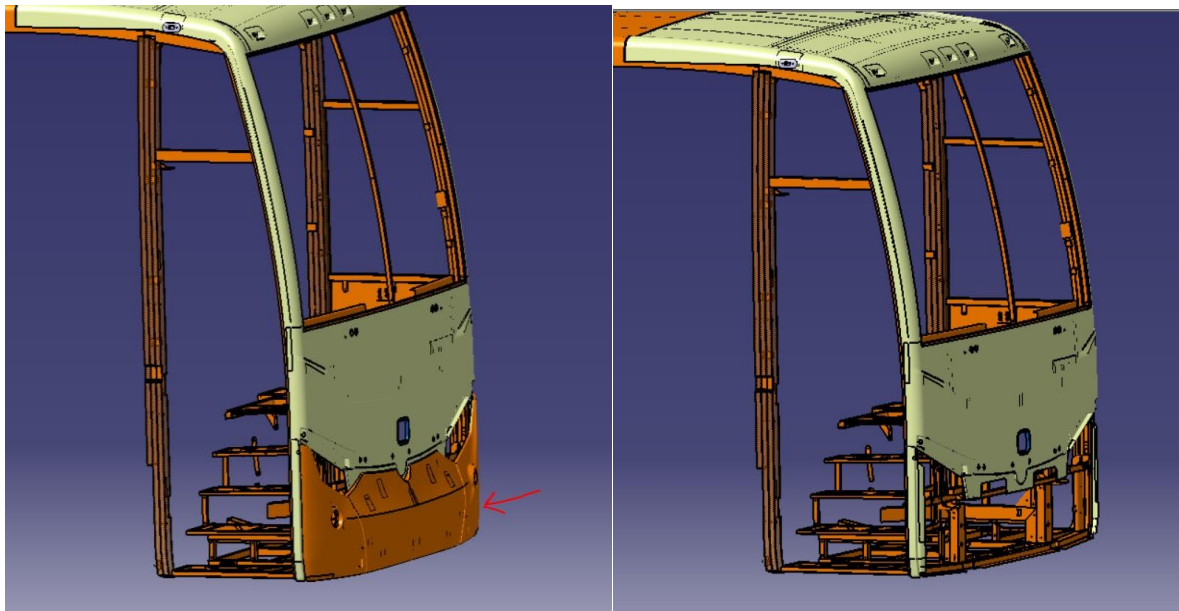
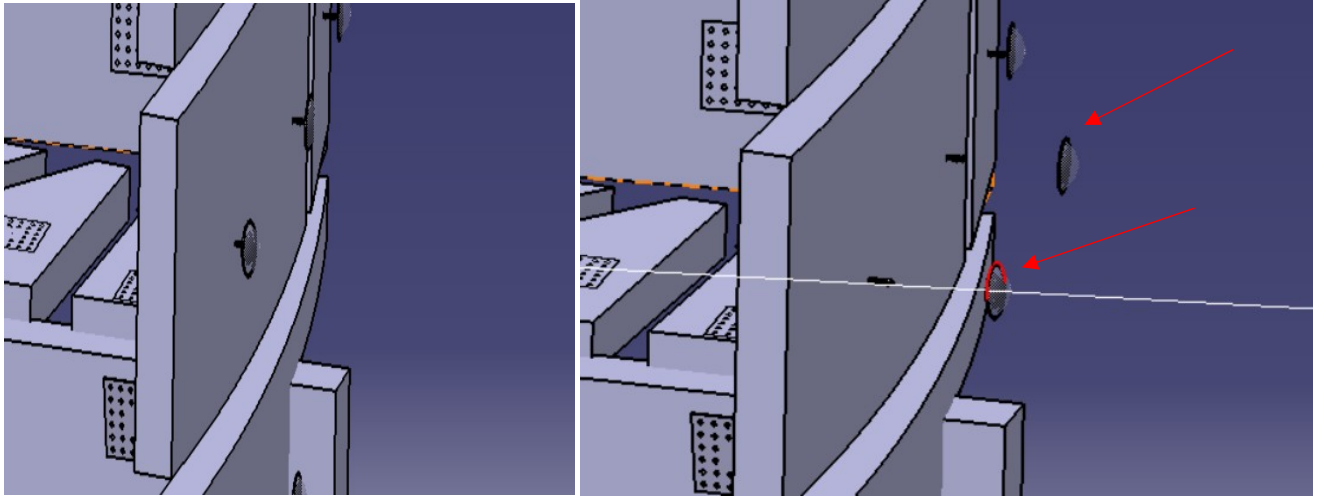

Figure.1. The disassembly of the front bumper
Figure.2.The disassembly of the nail head
1. The front bumper of the vehicle must be disassembled (as shown in Figure.1) to reach the insulation zone which is shown in Figure.2.